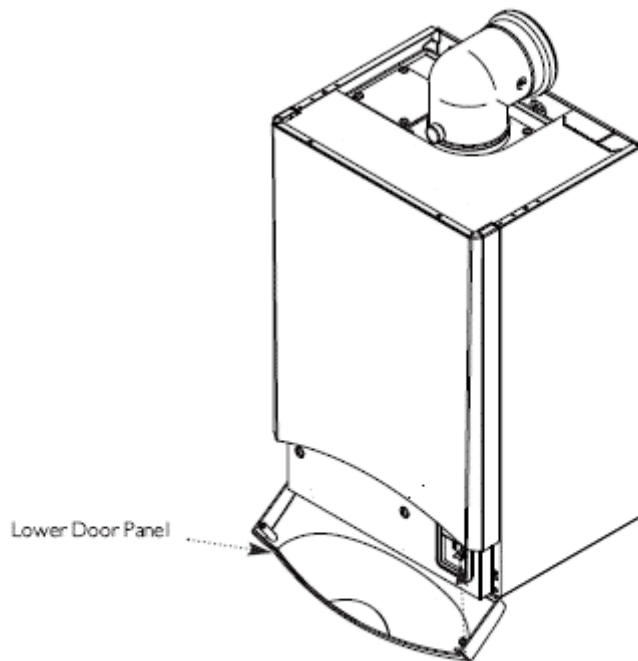

Fig. 1
1. Hinge down the lower door panel (Fig. 1).